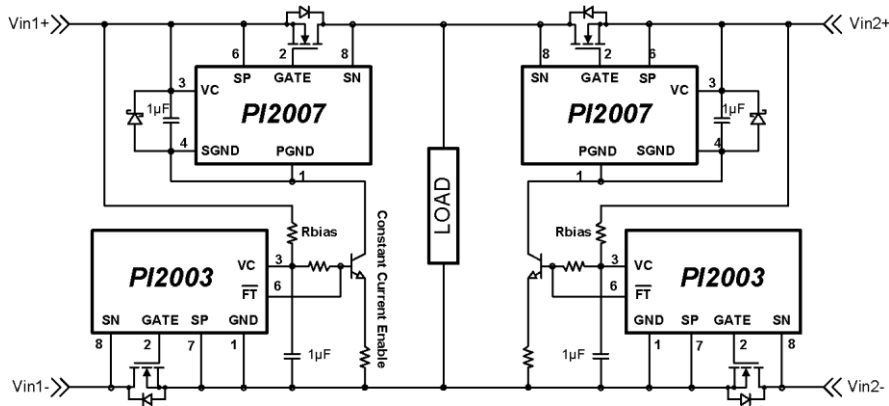

**Figure 17:** PI2007 in high side +48V application, VC is biased through a bias resistor
A single PI2007 with a suitable MOSFET for each redundant +48V power source should be used and configured as shown in Figure 17 or Figure 18. Figure 17 is configured with the VC biased from the return line through a bias resistor. Figure 18 is configured with the VC biased from the return line through the constant current circuit.
**VC Bias:** Since the bus voltage is higher than 14V, connect VC pin to the high side of the input voltage and connect a bias resistor ( $R_{PG}$ ) or a constant current circuit between PI2007 SGND pin and ground ( $V_{in}$  return), as shown in Figure 17 and Figure 18. Place a low forward voltage drop Schottky diode and a 1μF ceramic capacitor between SGND pin and VC pin. Also connect PGND pin to SGND at the coupling capacitor terminal.